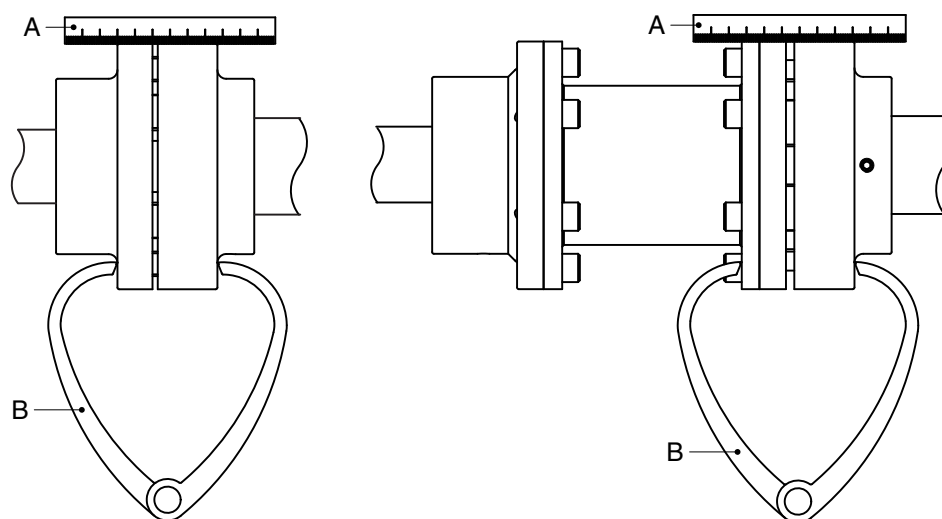

Figure 3: Aligning the coupling by means of a ruler and a pair of outside calipers.
- 1 Place a ruler (A) on the coupling. Place or remove as many copper shims as is necessary to bring the electric motor to the correct height so that the straight edge touches both coupling halves over the entire length, see figure 3.
- 3 Check the alignment once again using a pair of external callipers (B) at 2 diametrical opposite points on the sides of the coupling halves, see figure 3.